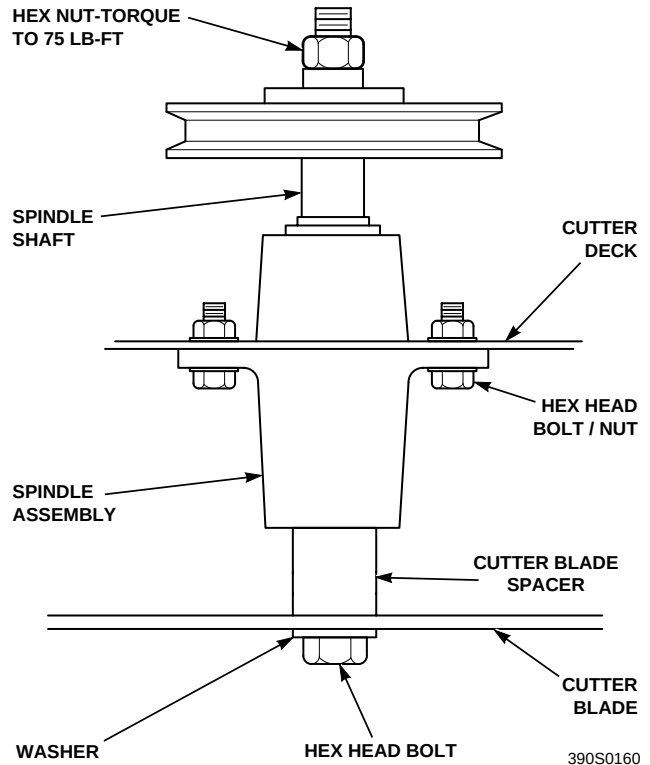

Figure 7-7 Blade Replacement
6. Install the hex nut to the blade bolt at the top of the cutter spindle. Secure the blades from rotating and torque to 75 ft/lbs. (See Figure 7-7).